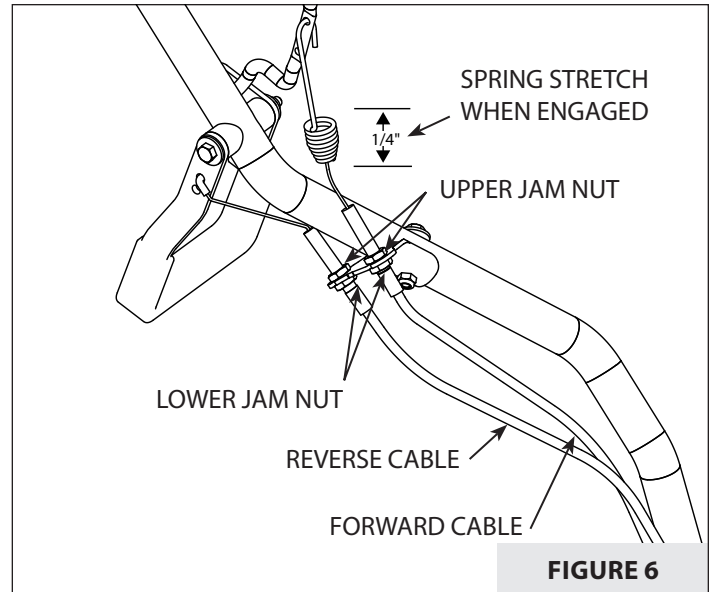

FIGURE 6
1. Loosen upper jam nut. **SEE FIGURE 6.**
3. When proper adjustment is achieved, tighten upper jam nut. Tension is properly adjusted when engaging the drive safety control lever, the beehive spring on the cable stretches about 1/4 inch or 5 mm longer. **SEE FIGURE 6.**